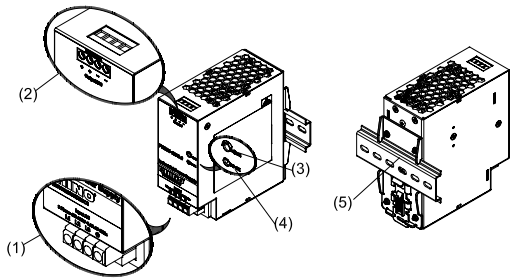
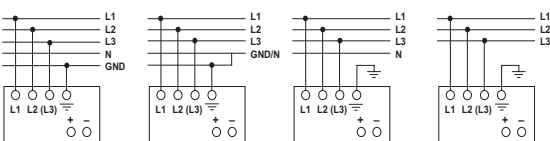

Figure 1
Figure 5
2. Device description (Fig. 1)
5.1. Input connection (Fig. 1, Fig. 5)
Use L1, L2, L3 with GND connections of input terminal connector (See Fig. 5) to establish 3 x 400-500VAC connection. Fig. 5 shows the connection to the various network types.
5.2. Output Connection (Fig. 1 (2))
Use the "+" and "-" screw connections to establish the 24 VDC connection. The output provides 24 VDC. The output voltage can be adjusted from 24 to 28 VDC on the potentiometer. The green LED DC OK displays correct function of the output (Fig. 1 (4)). The device has a short circuit and overload protection and an overvoltage protection limited to 35 VDC.